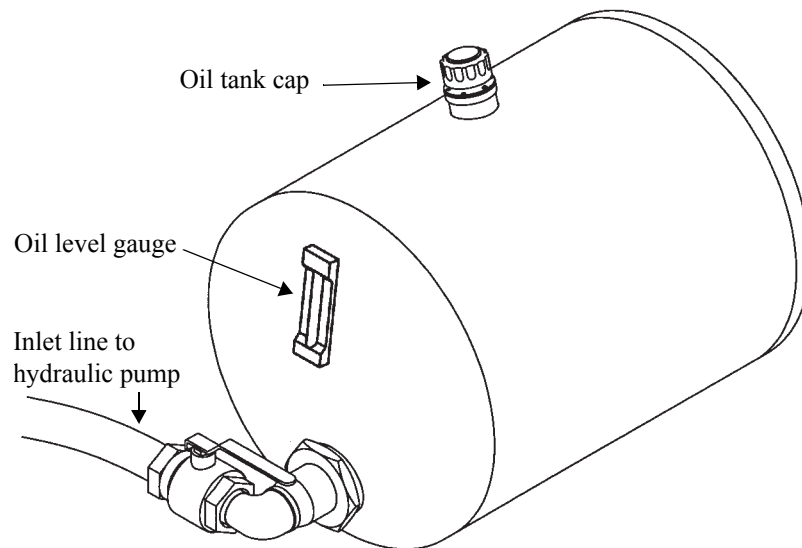

Figure 24 - Location of cap, gauge and inlet line on oil tank
- The hydraulic filter on the entry line of the oil tank (see *Figure 24 on page 73*).
- The hydraulic oil tank (see *Figure 24 on page 73*).
CAUTION! Keep the oil level above the hydraulic inlet line leading to the pump (see *Figure 24*, below). The pump will be seriously damaged if oil does not flow into it.
The oil tank is located on the side of the carrier. The oil level gauge is located on the side of the tank (see *Figure 24*, below).
2. Unscrew the cap on the top of the tank and add the oil while watching the gauge (see *Figure 24*).